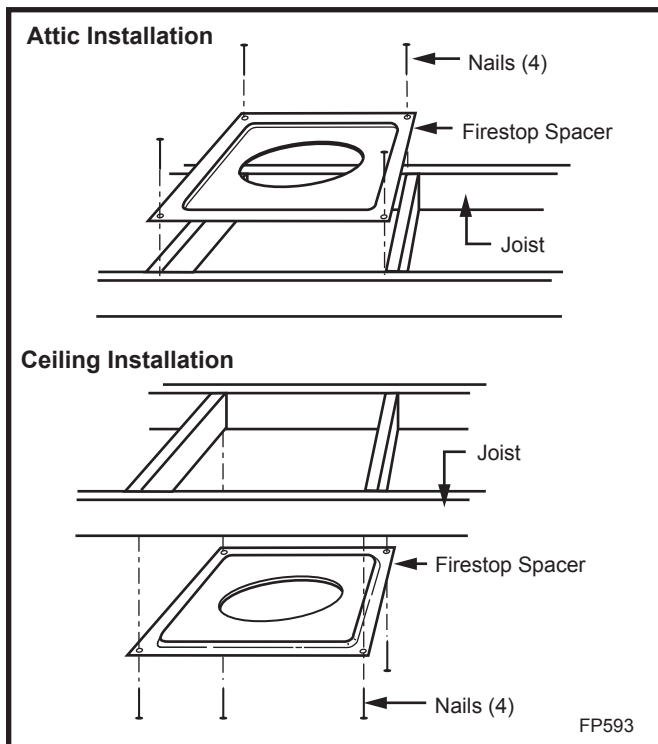

Fig. 17 Firestop spacer installations.
**CAUTION: When installing a fireplace in an insulated enclosure, be sure all required air spaces are maintained. (Page 13, Fig. 17)**
Figure 17 shows different installation procedures for both an area that is an attic and an area that is not an attic.
If you encounter additional ceilings, repeat same steps required for first ceiling installation. See firestop illustration in Figure 17.